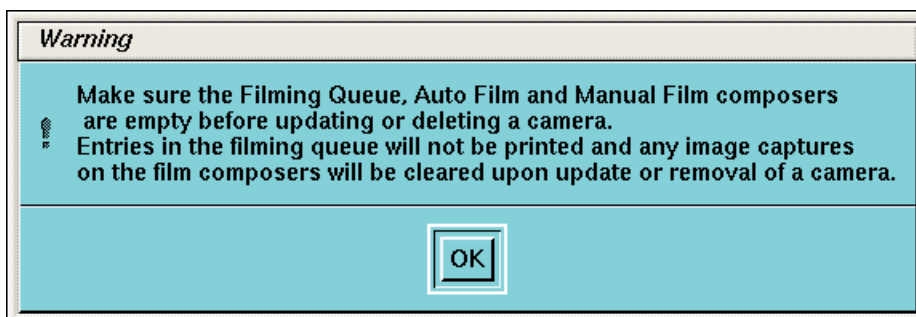
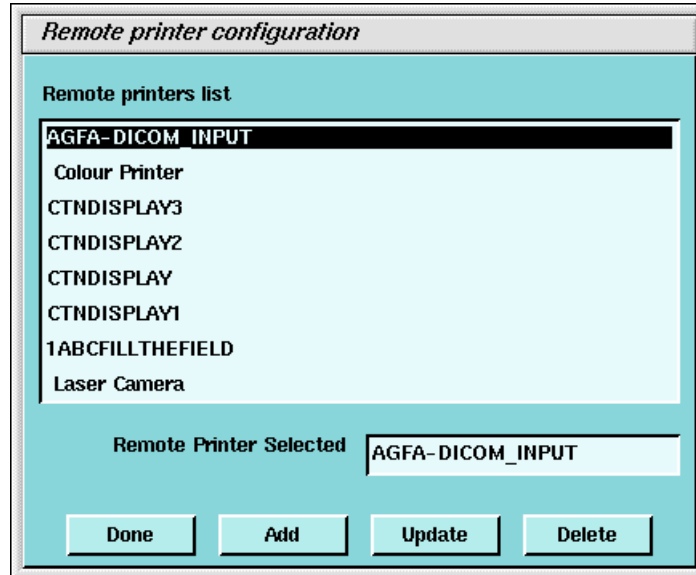

Figure 13-8 Warning Screen
Figure 13-9 Printer Configuration GUI
- 3.) The Graphical User Interface displayed shows a list of cameras installed (see Figure 13-9). First, you must click OK in the warning message box (see Figure 13-8).
- a.) To add a new camera, click the ADD button (see Figure 13-9).